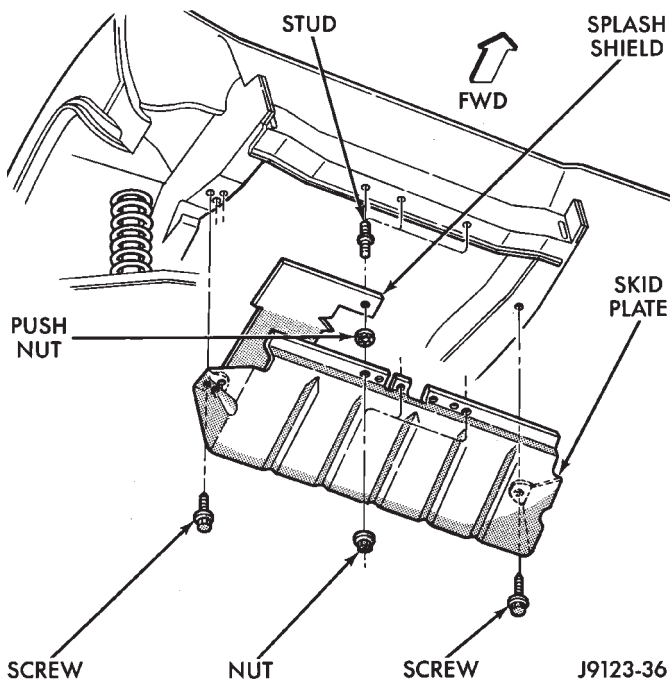

Fig. 1 Front Skid Plate Removal/Installation
(1) Remove the screws that attach skid plate to side sills (Fig. 1).
- (2) Remove the nuts that attach the skid plate to the crossmember (Fig. 1).
- (3) Remove the skid plate from the vehicle (Fig. 1).
- (1) Position the skid plate at front crossmember and side sills (Fig. 1).
- (2) Install the nuts to attach the skid plate to crossmember.
- (3) Install the screws to attach skid plate to side sills.